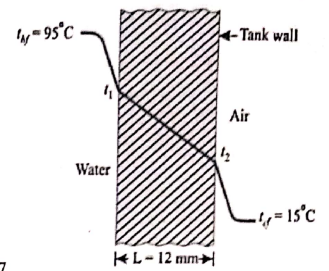

Fig. 7
- (b) A mild steel tank of wall thickness 12 mm contains water at 95°C as shown in Figure 7. The thermal conductivity of mild steel is 50 W/m°C, and the heat transfer coefficients for the inside and outside of the tank are 2850 and 10 W/m²°C, respectively. If the atmospheric temperature is 15°C, calculate: